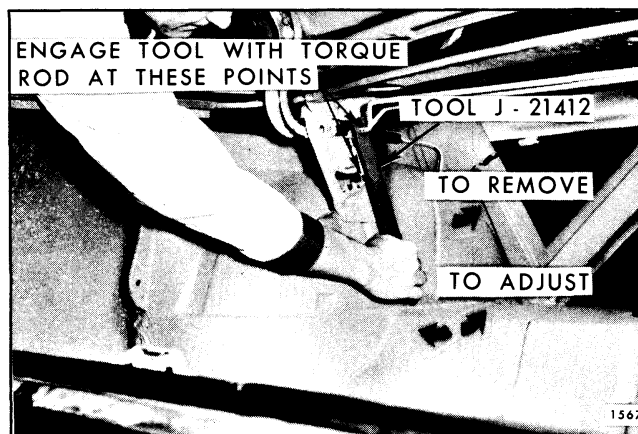
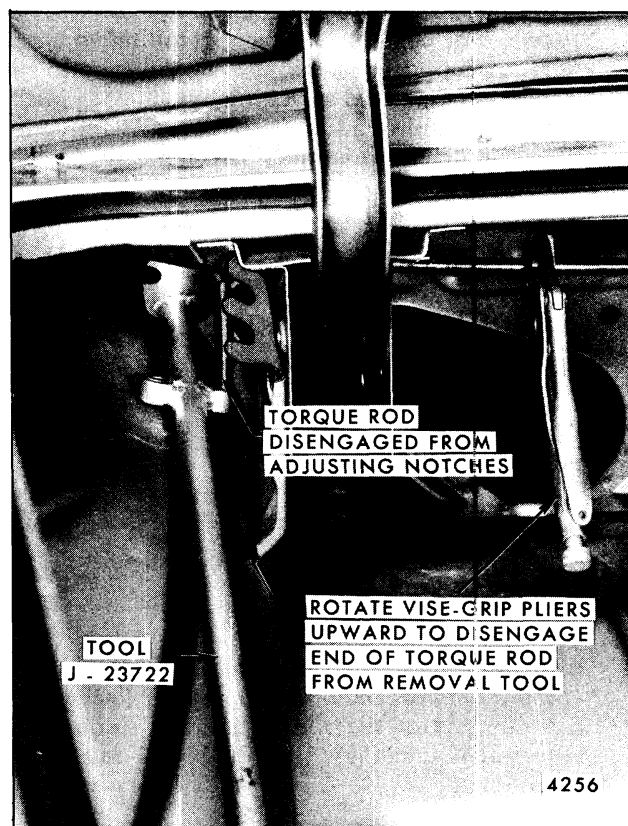

Fig. 7-21-Rear Compartment Torque Rod Adjustment - "X-27,69" Styles
Fig. 7-26-Rear Compartment Torque Rod Removal - Cadillac "C and E" Styles
1. To increase the amount of effort required to raise the rear compartment lid or to decrease the amount of effort required to close the lid, reposition the end of the rod to a lower torque rod adjusting notch (Figs. 7-21, 7-22, 7-23 and 7-24).
- a. On "X-27,69" styles, use tool J-21412 or equivalent (Fig. 7-21).
2. To remove torque rods, disengage end of torque rod from adjusting notches on hinge strap, as shown in Figures 7-21, 7-26 and 7-27. Then, allow handle of removal tool to rotate forward to relieve tension on rod. In some cases, it may be necessary to install a pair of locking type pliers on rod, as shown in Figures 7-26 and 7-27, and lift upward on pliers to disengage removal tool from end of rod.